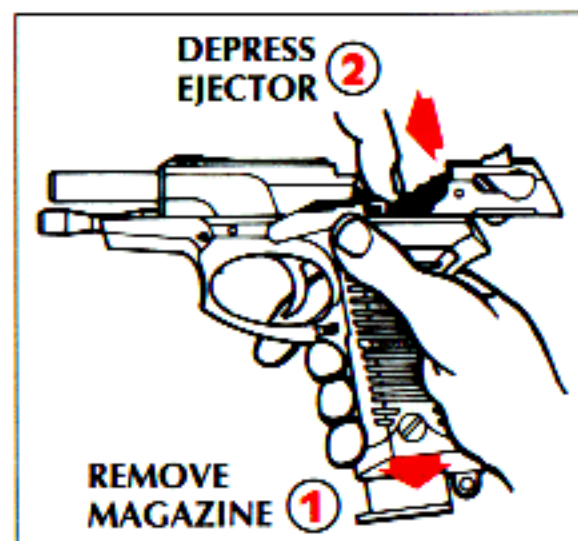

FIGURE 3
3. Keep upward pressure on slide stop to prevent forward movement of slide. Open slide is under strong spring tension and could injure fingers if allowed to slam shut. Insert finger through top of slide and push ejector downward and forward (see Figure 3, p. 17) until it locks in its lower position. This will permit forward movement of slide. Further disassembly is impossible unless this is done.